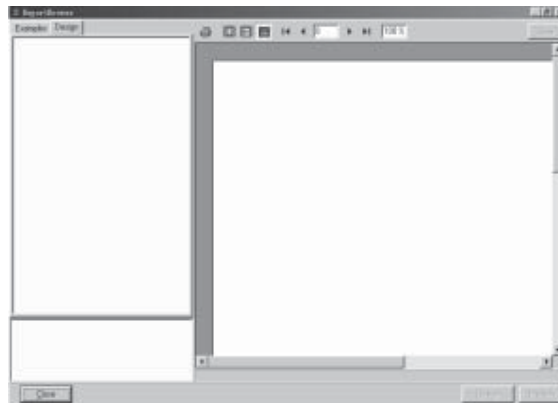
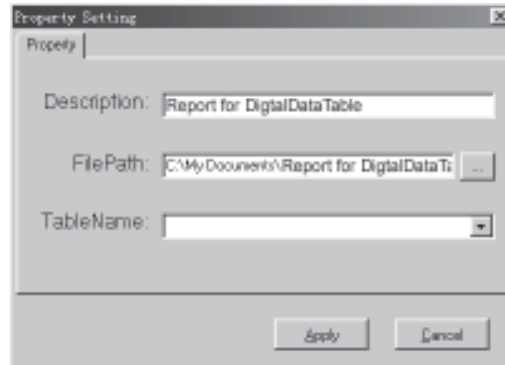
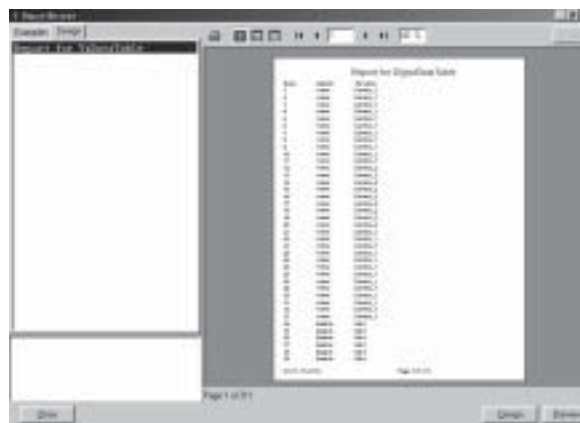

Fig. 8-21 Select the Page Key ;°Design;±
Fig. 8-24 Entering the Options
Fig. 8-25 The Page After Clicking the button ;°Apply;±
2. Design the Report: Select the page key ;°Design;±and the listing table is empty if opened for the first time, as in Fig. 8-21.
In Fig. 8-21, enter the name describing the use of the report in the position of ;°Description;±and the path and name of the report in the position of ;°FilePath;±or click the button  to open the dialogue block of selecting the files to be opened. Then click the button ;°Apply2;±in Fig. 8-24. And at the same time, a new record is added to the listing table frame as in Fig. 8-25.